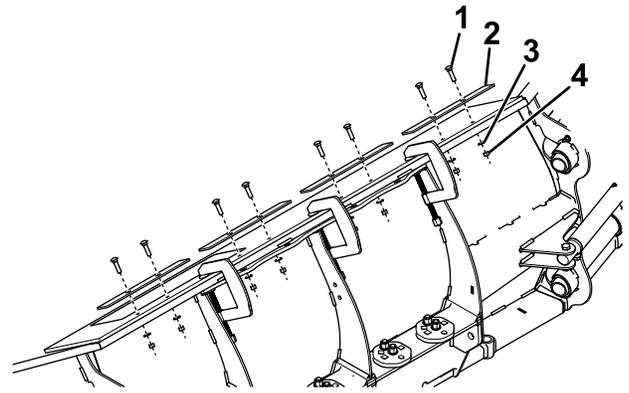

**Figure 11**
2. Clamp the long belting section to the top edge of the plow blade (Figure 11).
3. Clamp the short belting sections to the top edge of the plow wings (Figure 11).